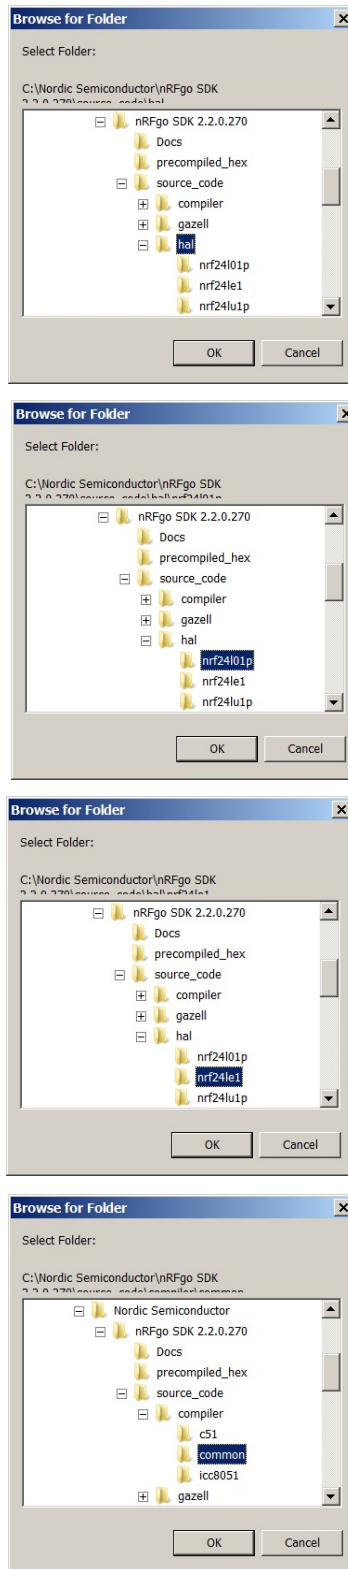

Figure 10. Browse to the folders to include, and repeat for four folders
13. Use the function buttons to include all the paths as displayed in the screenshots in Figure 10. on page 11.
14. Figure 10. show the paths that contain the files needed for this project.
- After choosing the folders you want to include, confirm your choice by selecting **OK** in the “Browse for folder” dialog. See Figure 10. on page 11.